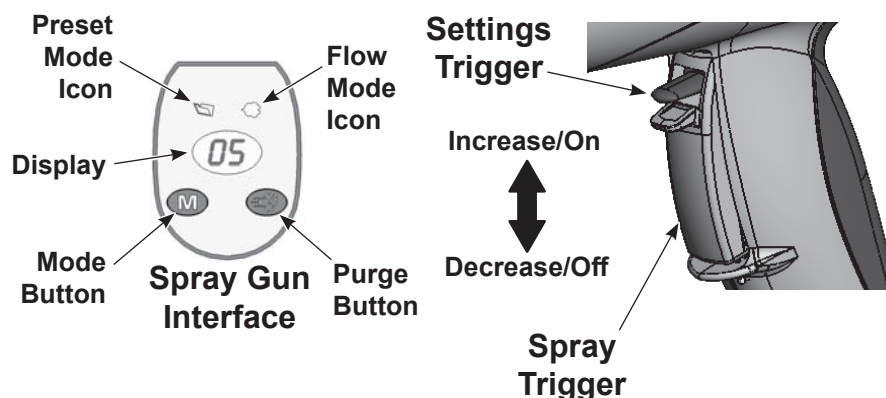

Figure 4-3 Gun Controls
1. See Figure 4-3. Release the spray trigger. Presets cannot be changed while the gun is triggered on.
1. See Figure 4-3. Press the Mode button until the Flow Mode icon is lit.
1. See Figure 4-3. Point the gun into the booth and release the spray trigger.